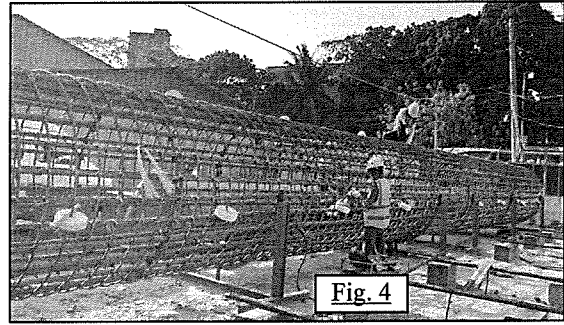

Fig. 4
4. Fig. 4 shows works-men at the MRT-6 pile section, of diameter $D_0 = (5 + 0.02R_0)$ -ft with steel ratio = 3% and 10^{mm}-dia spirals spaced $@(D_0/24)$ c/c.